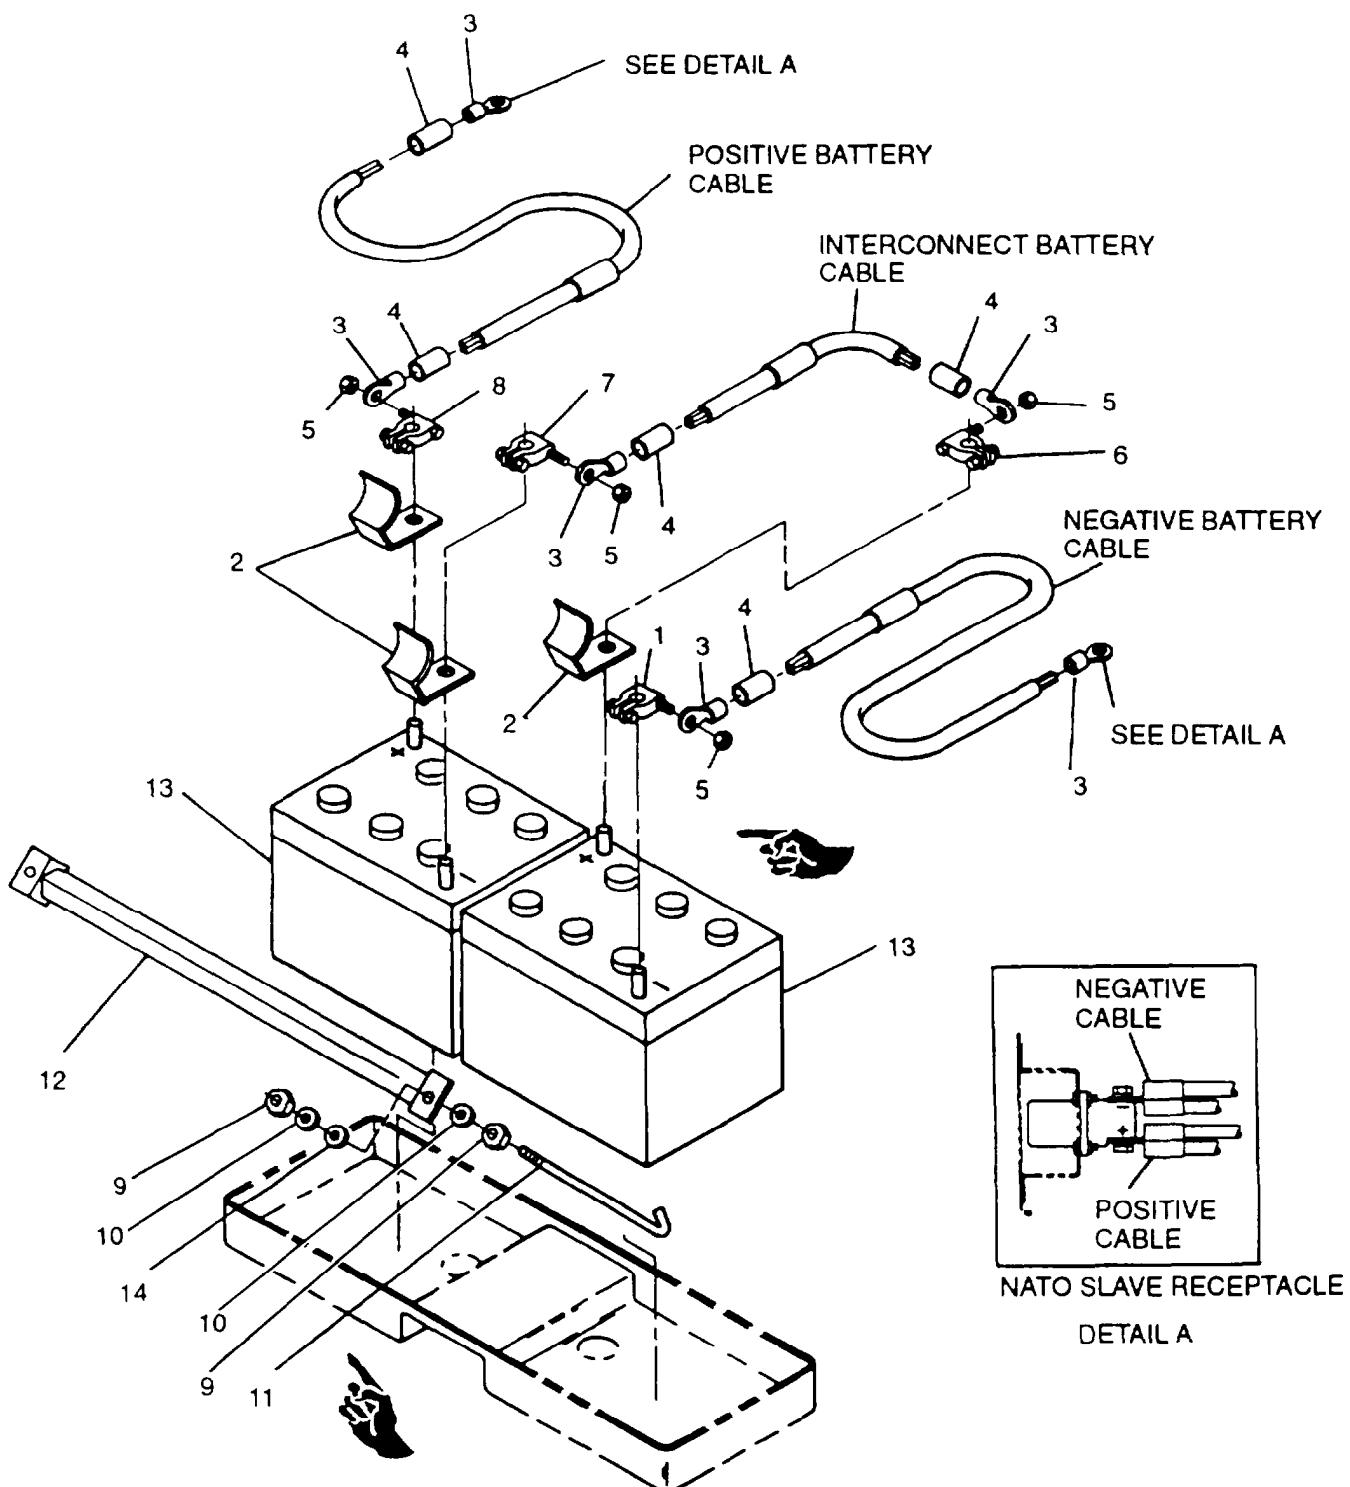

FIGURE 2-3. Batteries and Cables
- c. Disconnect negative battery cable terminal lug (1, FIGURE 2-3) from battery.
- d. Disconnect and remove applicable cable assembly as shown in FIGURE 2-3 or FIGURE 2-4.
- a. Remove terminal cover(s) (2, FIGURE 2-3) from battery post(s), if applicable.
- a. Remove nut(s) (5, FIGURE 2-3) and battery cable terminal lug(s), as necessary.
- b. Remove broken or damaged terminal (3, FIGURE 2-3 or 2-4) from cable assembly.
- c. Slide new shrinkable tubing (4, FIGURE 2-3 OR 2-4) OVER CABLE END.
- d. Install terminal (3) to cable end as described in Appendix D.
- e. Heat shrinkable tubing (4) with heat gun until secure.
- f. Install battery cable terminal lug(s) with nuts(s) (5,FIGURE 2-3), as necessary.
- a. Connect negative battery cable terminal lug (1, FIGURE 2-3) to battery.
- c. Disconnect negative battery cable terminal lug (1, FIGURE 2-3).
- a. Remove terminal covers (2, FIGURE 2-3).
- c. Install terminal covers (2) on batteries (13)
- a. Position batteries (13, FIGURE 2-3) in generator set. Ensure that batteries are serviced and fully charged.
- b. Apply general purpose grease (Item 9, Appendix C) to battery posts and cable terminal lugs (1), (6), (7), and (8).
- c. Install hook bolts (11) and retaining bar (12) with lockwashers (14) washers (IO), and nuts (9).